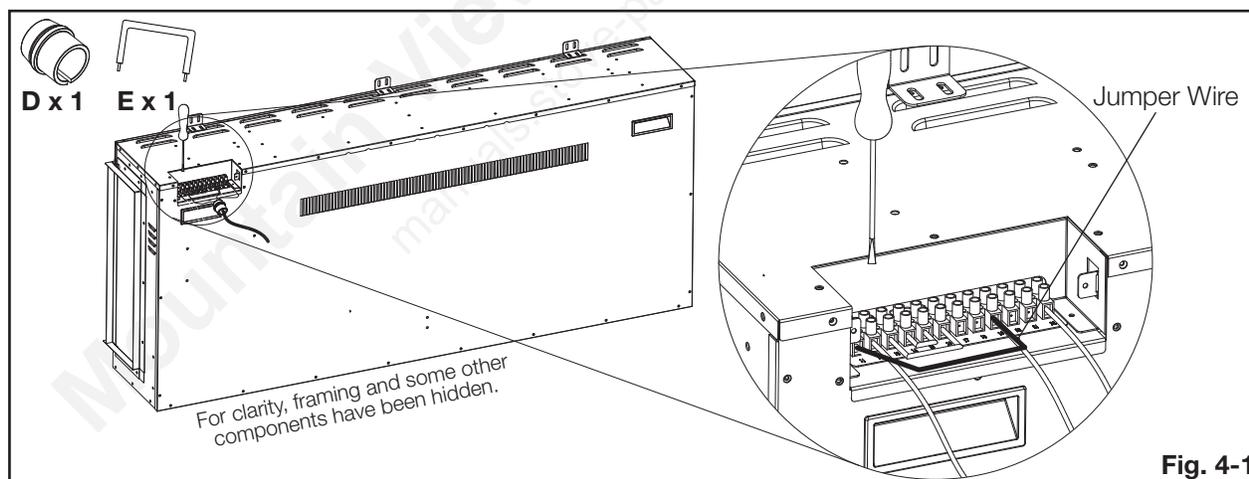

Fig. 4-1
4. Insert the supply wires through the junction box cover plate with the strain relief (supplied) (**Fig. 4-1**) and locate the wires to the specified terminal block location based on desired voltage selection.
3. Insert the supply neutral into terminal 19, then jump it over to terminal 11 with the jumper wire (supplied) (**Fig. 4-1 and 4-2**).